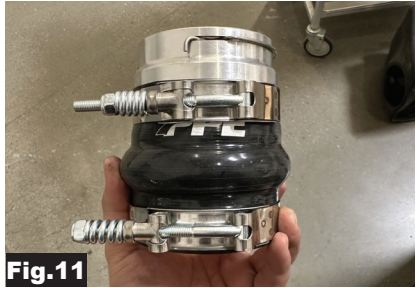

Fig.11
2. Install 3.25" Hump Coupler **(H)** with Hose Clamps **(L)** onto the Aluminum Adapter **(D)** then install onto the intercooler (**Fig. 11 & 12**).